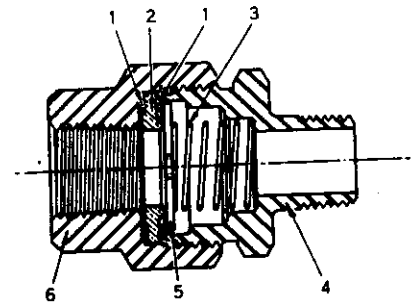

FIG 7 - SINGLE CHECK VALVE
31. Clean all parts in cleaning solvent. Inspect disc valve and seat for pitting or corrosion. Inspect body and cap nut for cracks or damage. Replace damaged parts. It is advisable to replace the two copper sealing gaskets (reference 1, fig 7) one on either side of the check valve seat.